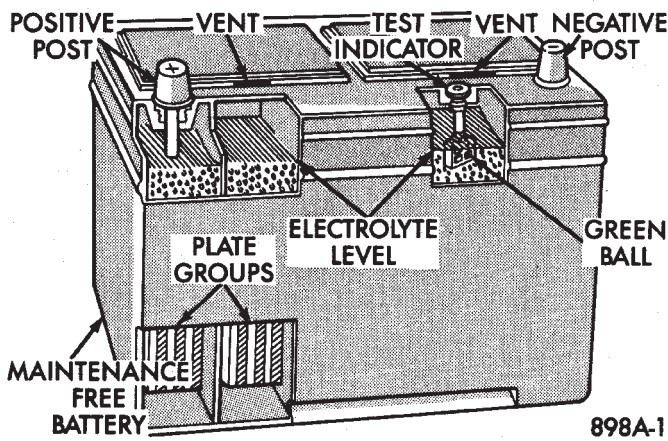
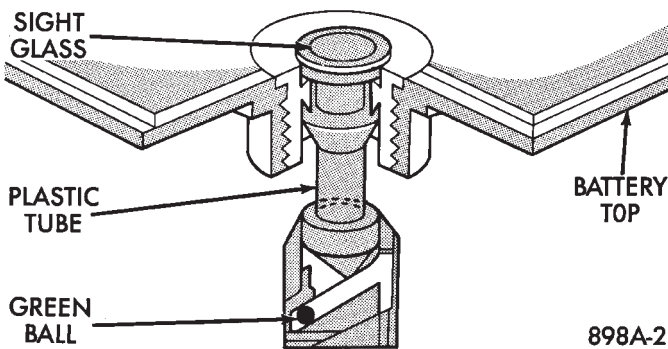

Fig. 3 Battery Construction and Test Indicator
Fig. 4 Built in Test Indicator
installed battery is equipped with a built-in hydrometer, as a test indicator (Figs. 3, 4 and 5) to assist in decide its state of charge. The factory installed battery is also sealed. Water cannot and should not be added.
The battery is vented to release gases that are created when the battery is being charged and discharged. The battery top, posts, and terminals should be cleaned when other under hood maintenance is performed (Fig. 3).
When the electrolyte level is below the top of the plates a yellow or bright color indicator in sight glass (Figs. 4 and 5), the battery must be replaced. Refer to Test Indicator. The battery must be completely charged with a green color in sight glass. The top, posts, and terminals should be properly cleaned before diagnostic procedures are performed. Also refer to Group 8B, Battery/Starter/Alternator Service for additional information.
A test indicator a hydrometer viewed through a sight glass, is built into the top of battery case (Figs. 3, 4 and 5). This provides visual information for battery testing.
The built-in test hydrometer (Figs. 3, 4 and 5) measures the specific gravity of the electrolyte. Specific Gravity (SG) of the electrolyte will show state-of-charge (voltage). The test indicator WILL NOT show cranking capacity of the battery. Refer to Battery Load Test for more information. Look into the sight glass (Figs. 4 and 5) and note the color of the indicator (Fig. 5). Refer to the following description as color show: